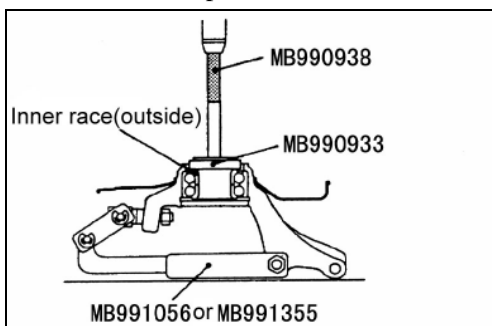

Fig.12-14
C. Install the inner race(outside) that was removed from the hub to the wheel bearing, and then use the special tool to remove the wheel bearing.(see Fig.12-14)。